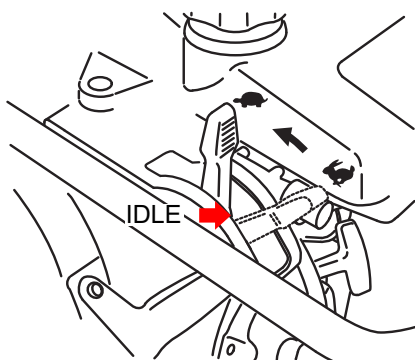

Figure 9. Throttle Lever (Idle Position)
1. Slide the throttle lever from the stop to the idle position (☛) (Figure 9). This opens the fuel cock and the engine electrical circuit is turned on automatically.
3. To stop the tamping action, move throttle lever quickly from the **START** (↗) position to the **IDLE** (→) position (Figure 9).
1. Move throttle lever quickly from the **START** (↗) position to the **IDLE** (→) position (Figure 9) and run the engine for three minutes at low speed. After the engine **cools**, move the throttle lever to the **STOP** position (Figure 15). The engine will stop and the fuel cock is automatically closed.